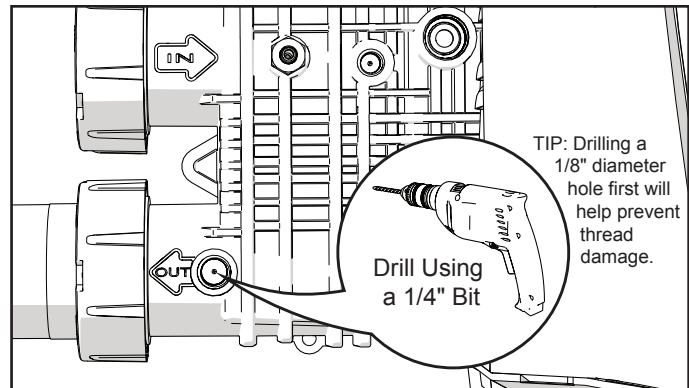

Figure 18. Locate and Drill Boss
- Locate the threaded boss on the outlet port of the in/out header (beside the "out" arrow). See "Figure 18. Locate and Drill Boss" on page 20.
- Note the dimple at the center of the bottom of the boss. Using the dimple to center the drill bit, drill a 1/4" diameter hole through the bottom of the boss, taking care not to damage the surrounding plastic threads. See "Figure 18. Locate and Drill Boss" on page 20. (TIP: Drilling a 1/8" diameter hole first will help prevent thread damage.)